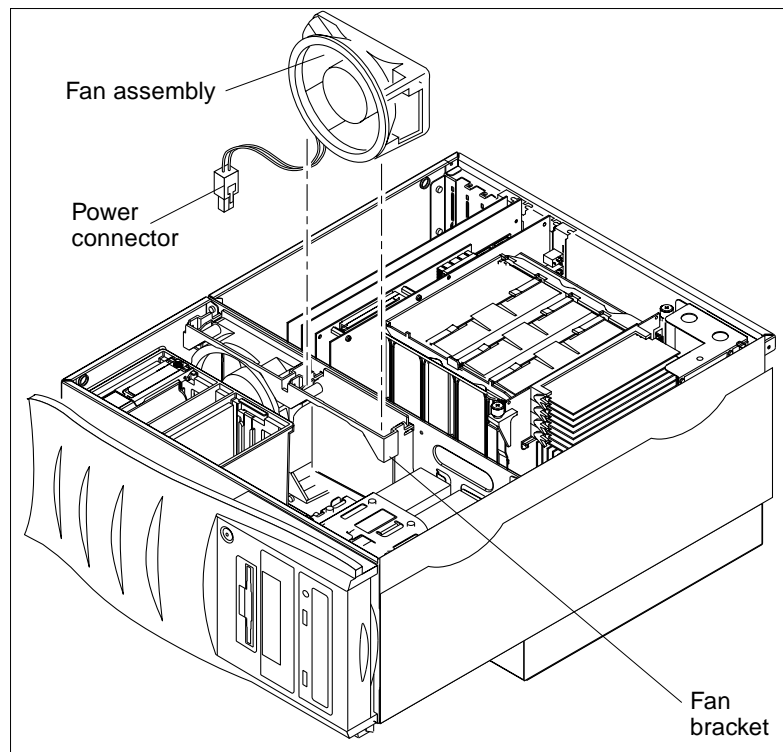

FIGURE 7-10 Removing and Replacing a Fan Assembly
**4. Remove a fan assembly as follows (FIGURE 7-10):**
1. **Replace a fan assembly as follows (FIGURE 7-10):**